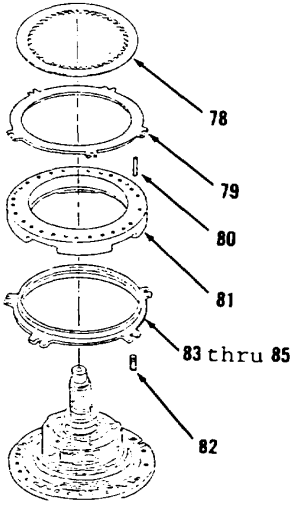

Figure 14-60.
- 18. Install items 85 thru 83 as an assembly, ten springs (82), housing (81) and five dowels (80), Figure 14-60).